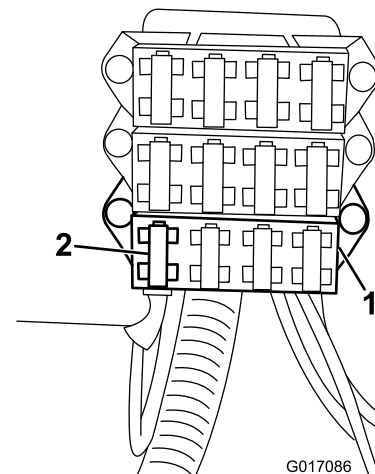

Figure 8
10. If there are no available power terminals on the existing fuse block, install the additional fuse block (92-2641) and 10-amp fuse (Figure 8).